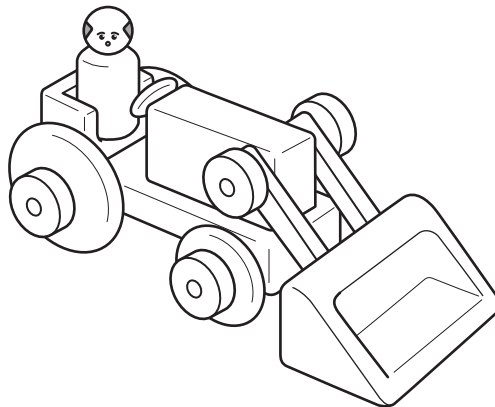

Fig. 5
- 4 Fig. 5 shows a child's toy made from beech.